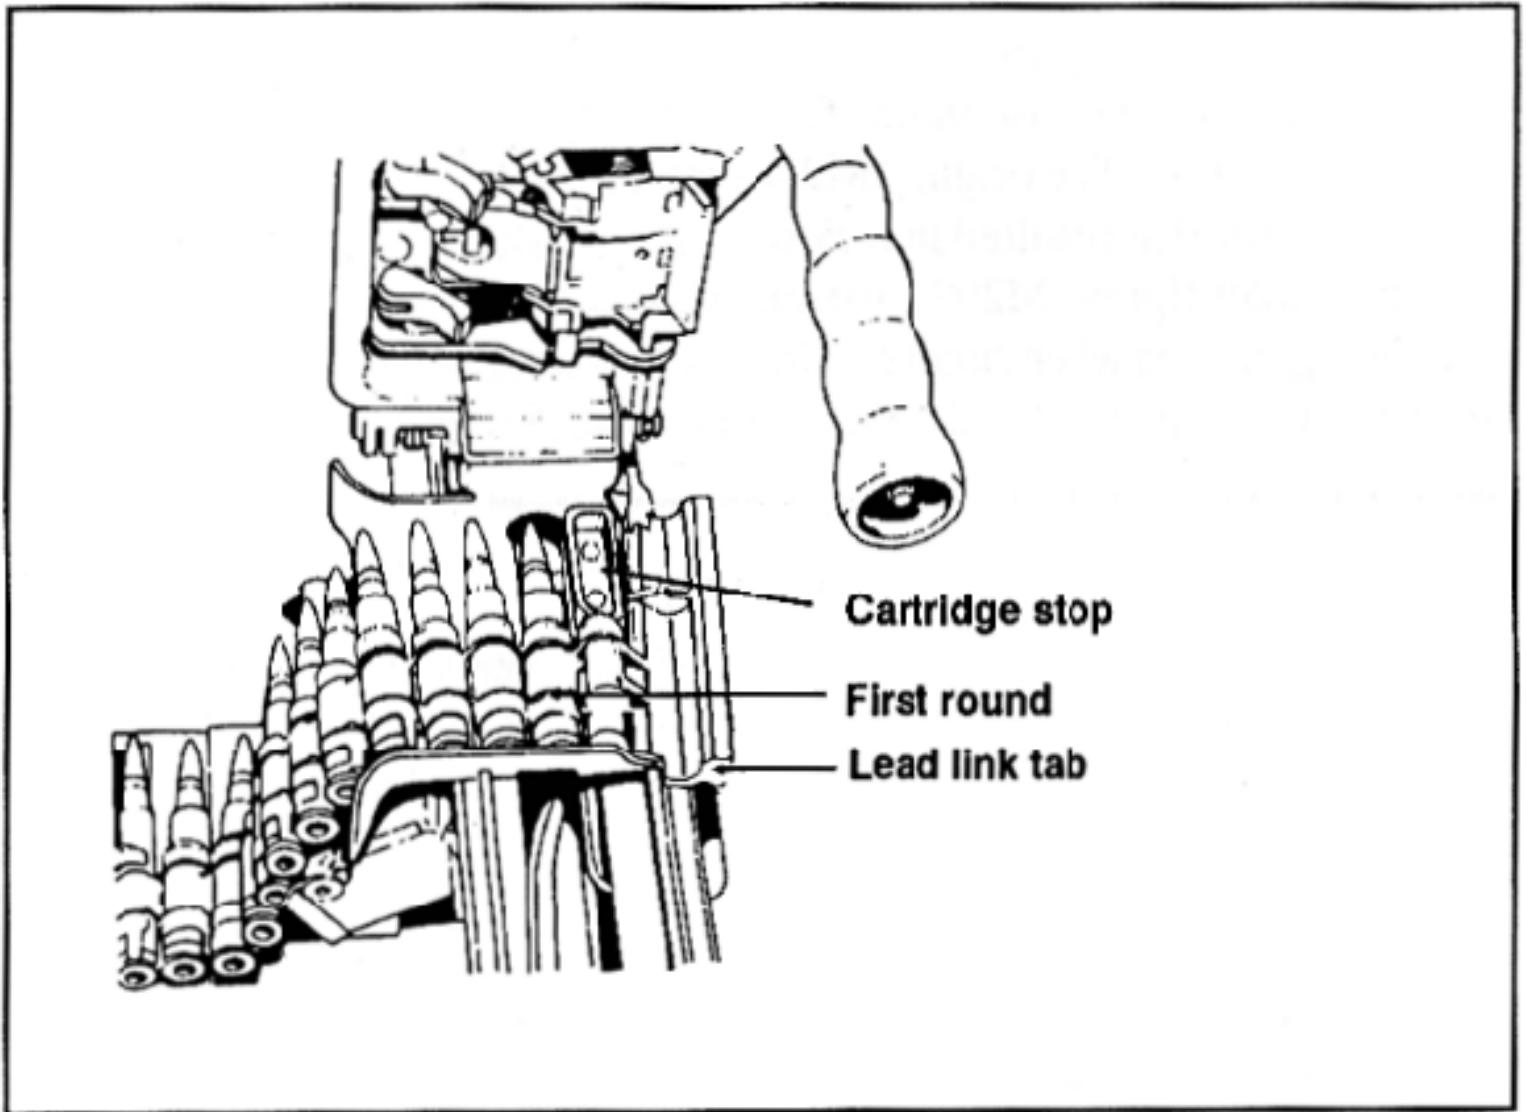

Figure 1-6. M855 cartridges in metallic belt.
1. *Cartridge, 5.56-mm ball M855 (A059).* The M855 cartridge has a gilding, metal-jacketed, lead alloy core bullet with a steel penetrator. The primer and case are waterproof. The ammunition is linked by a disintegrating metallic split-linked belt for firing from the ammunition box (Figure 1-6). In an emergency, the M855 round can also be loaded and fired from the M16 20or 30-round magazine. It is identified by a green tip, has a projectile weight of 62 grains, and is 2.3 cm long. This is the NATO standard round. It is effective against personnel and light materials, not vehicles.
Figure 1-6. M855 cartridges in metallic belt.